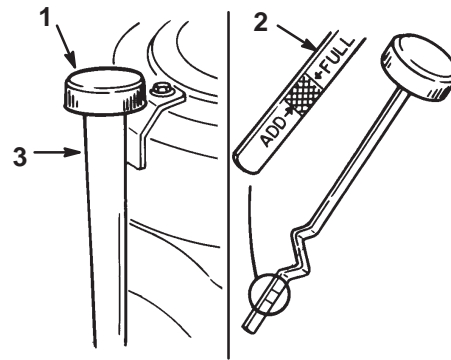

Figure 23
2. Clean around the oil dipstick (Fig. 23) so dirt cannot fall into the filler hole and damage the engine.
3. Unscrew the oil dipstick and wipe the metal end clean (Fig. 23).
4. Slide the oil dipstick fully into the filler tube, do not thread onto tube (Fig. 23). Pull the dipstick out and look at the metal end. If oil level is low, slowly pour only enough oil into the filler tube to raise the level to the "FULL" mark.
- Slowly pour approximately 80% of the specified oil, page 24, into the filler tube (Fig. 23). Now check the oil level; refer to Checking Oil Level, page 24. Slowly add additional oil to bring to “FULL” mark on dipstick.